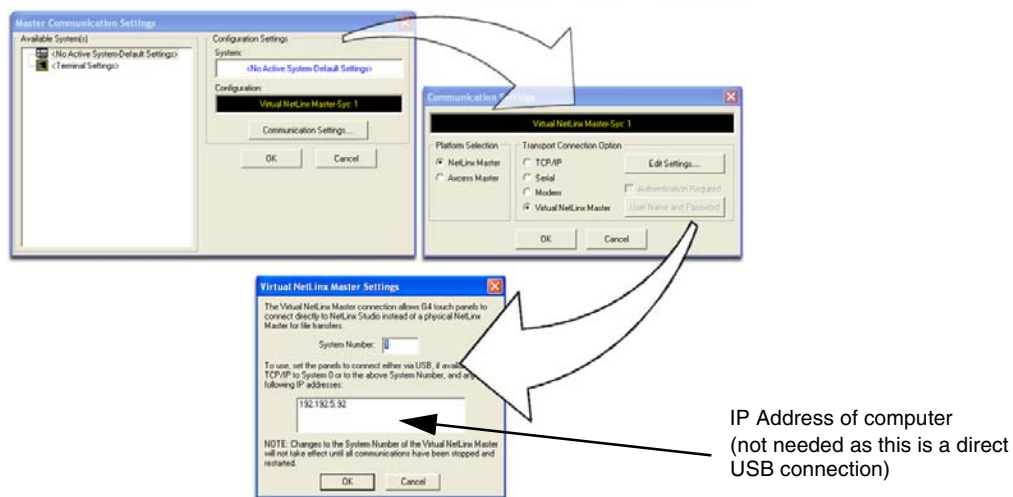

FIG. 93 Assigning Communication Settings for a Virtual Master
2. Select **Settings > Master Communication Settings**, from the Main menu to open the Master Communication Settings dialog (FIG. 93).
6. Click the **Edit Settings** button (on the *Communications Settings* dialog) to open the *Virtual NetLinX Master Settings* dialog (FIG. 93).